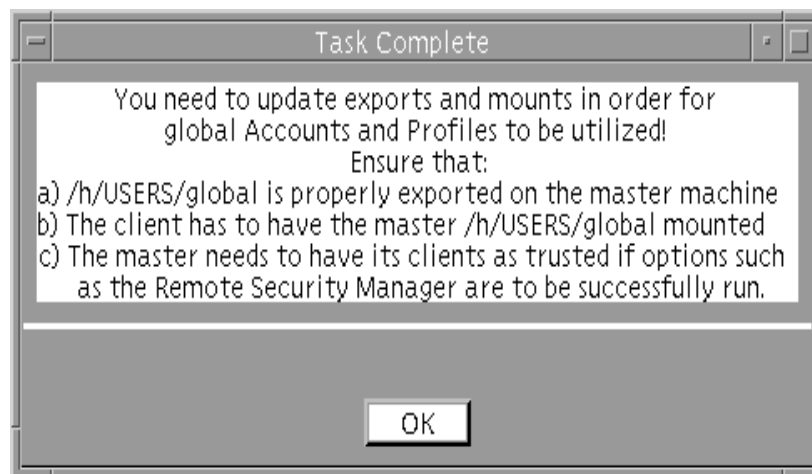

Figure 40. Task Complete Window
STEP 9: Acknowledge the task complete instructions. A Task Complete window appears listing several steps that a system administrator must take to use global accounts and profiles (Figure 40). Click on the OK button to close this window.